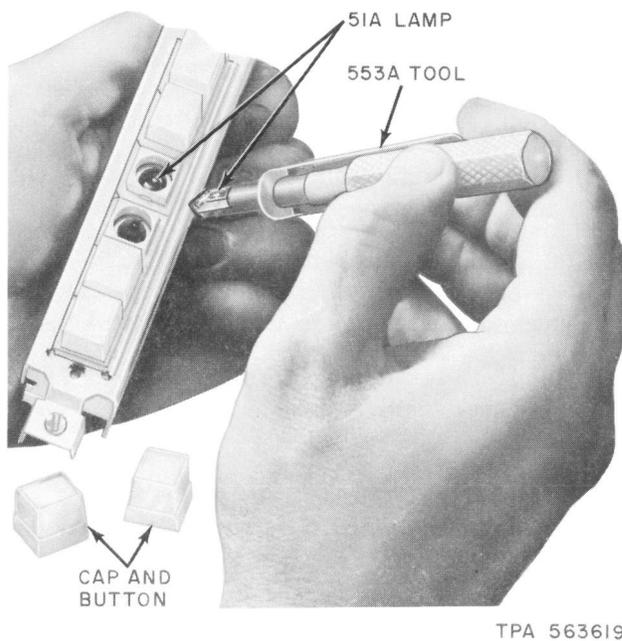

Fig. 1—Removing Lamp From 647-Type Key
2.03 Refer to Table A and Fig. 1 and 2 for the most common maintenance information on the 647-type keys.
2.06 To replace a button lamp, the collar must be removed before the button may be removed to gain access to the lamp. Use a 553A tool to remove the lamp (Fig. 1).